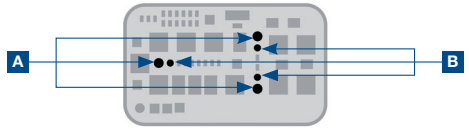

Figure 7
Push the positioning pins (B) down as far as they will go with a suitable tool. Tighten the three screws ("A" in Figure 7).